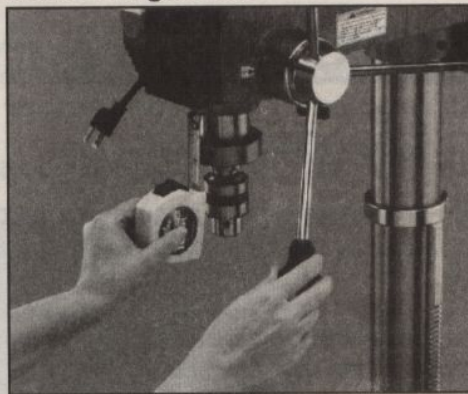

Figure 16
5. Remove the wood stock and test the depth stop by measuring how far the spindle travels when the handles are rotated as shown in **Figure 16**.